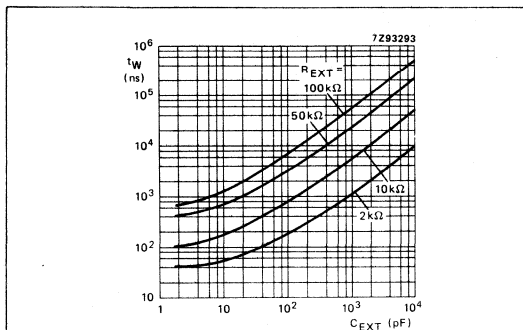

Fig. 9 Typical output pulse width as a function of the external capacitor values at  $V_{CC} = 5.0 \text{ V}$  and  $T_{\text{amb}} = 25 \text{ }^\circ\text{C}$ .
1. For other  $R_{EXT}$  and  $C_{EXT}$  combinations see Fig. 9.